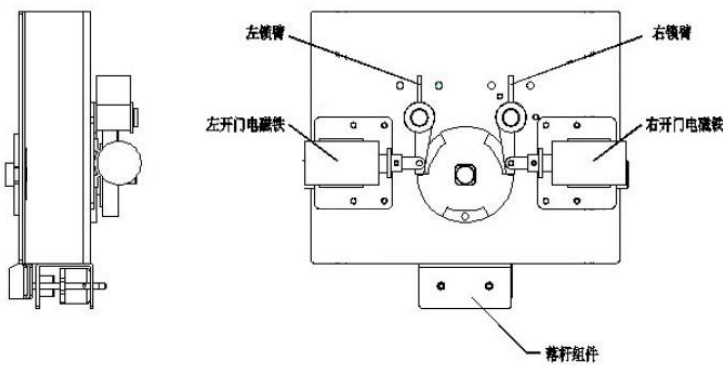

Figure 2
3.movement chart (see Figure 2)